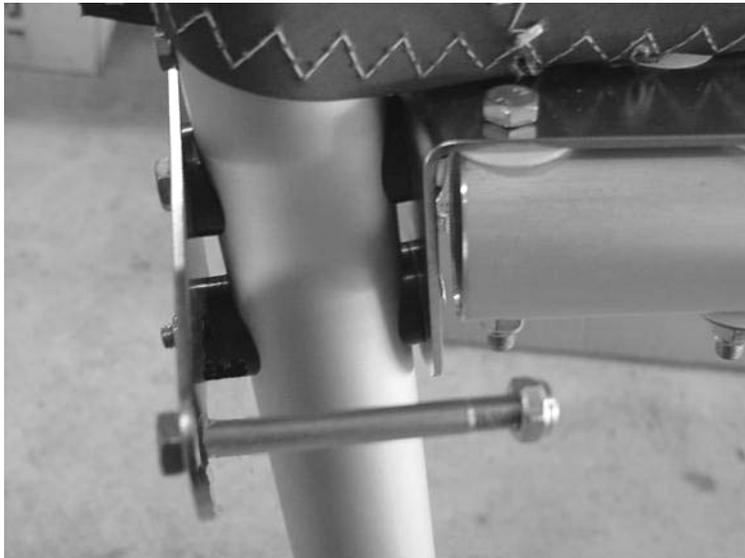

Figure 55; vertical fin and horizontal stabiliser rear mountings.
- a) Fit the rudder post (the trailing edge of the vertical fin) between the two pairs of saddle washers shown in Figure 55 and Figure 56.